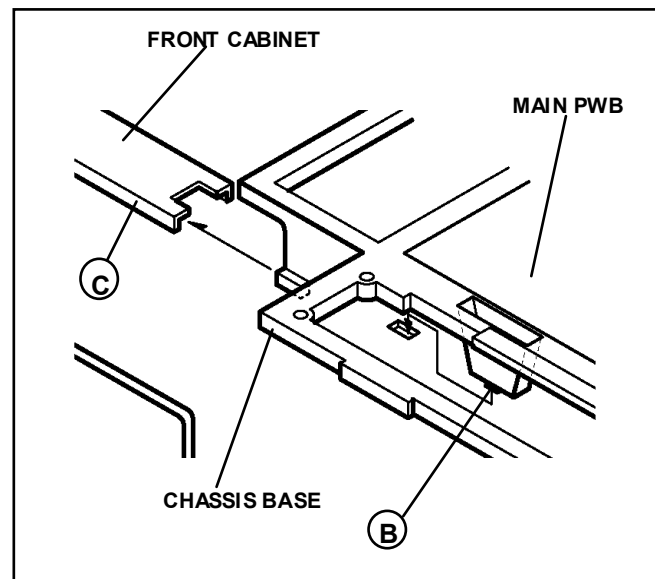
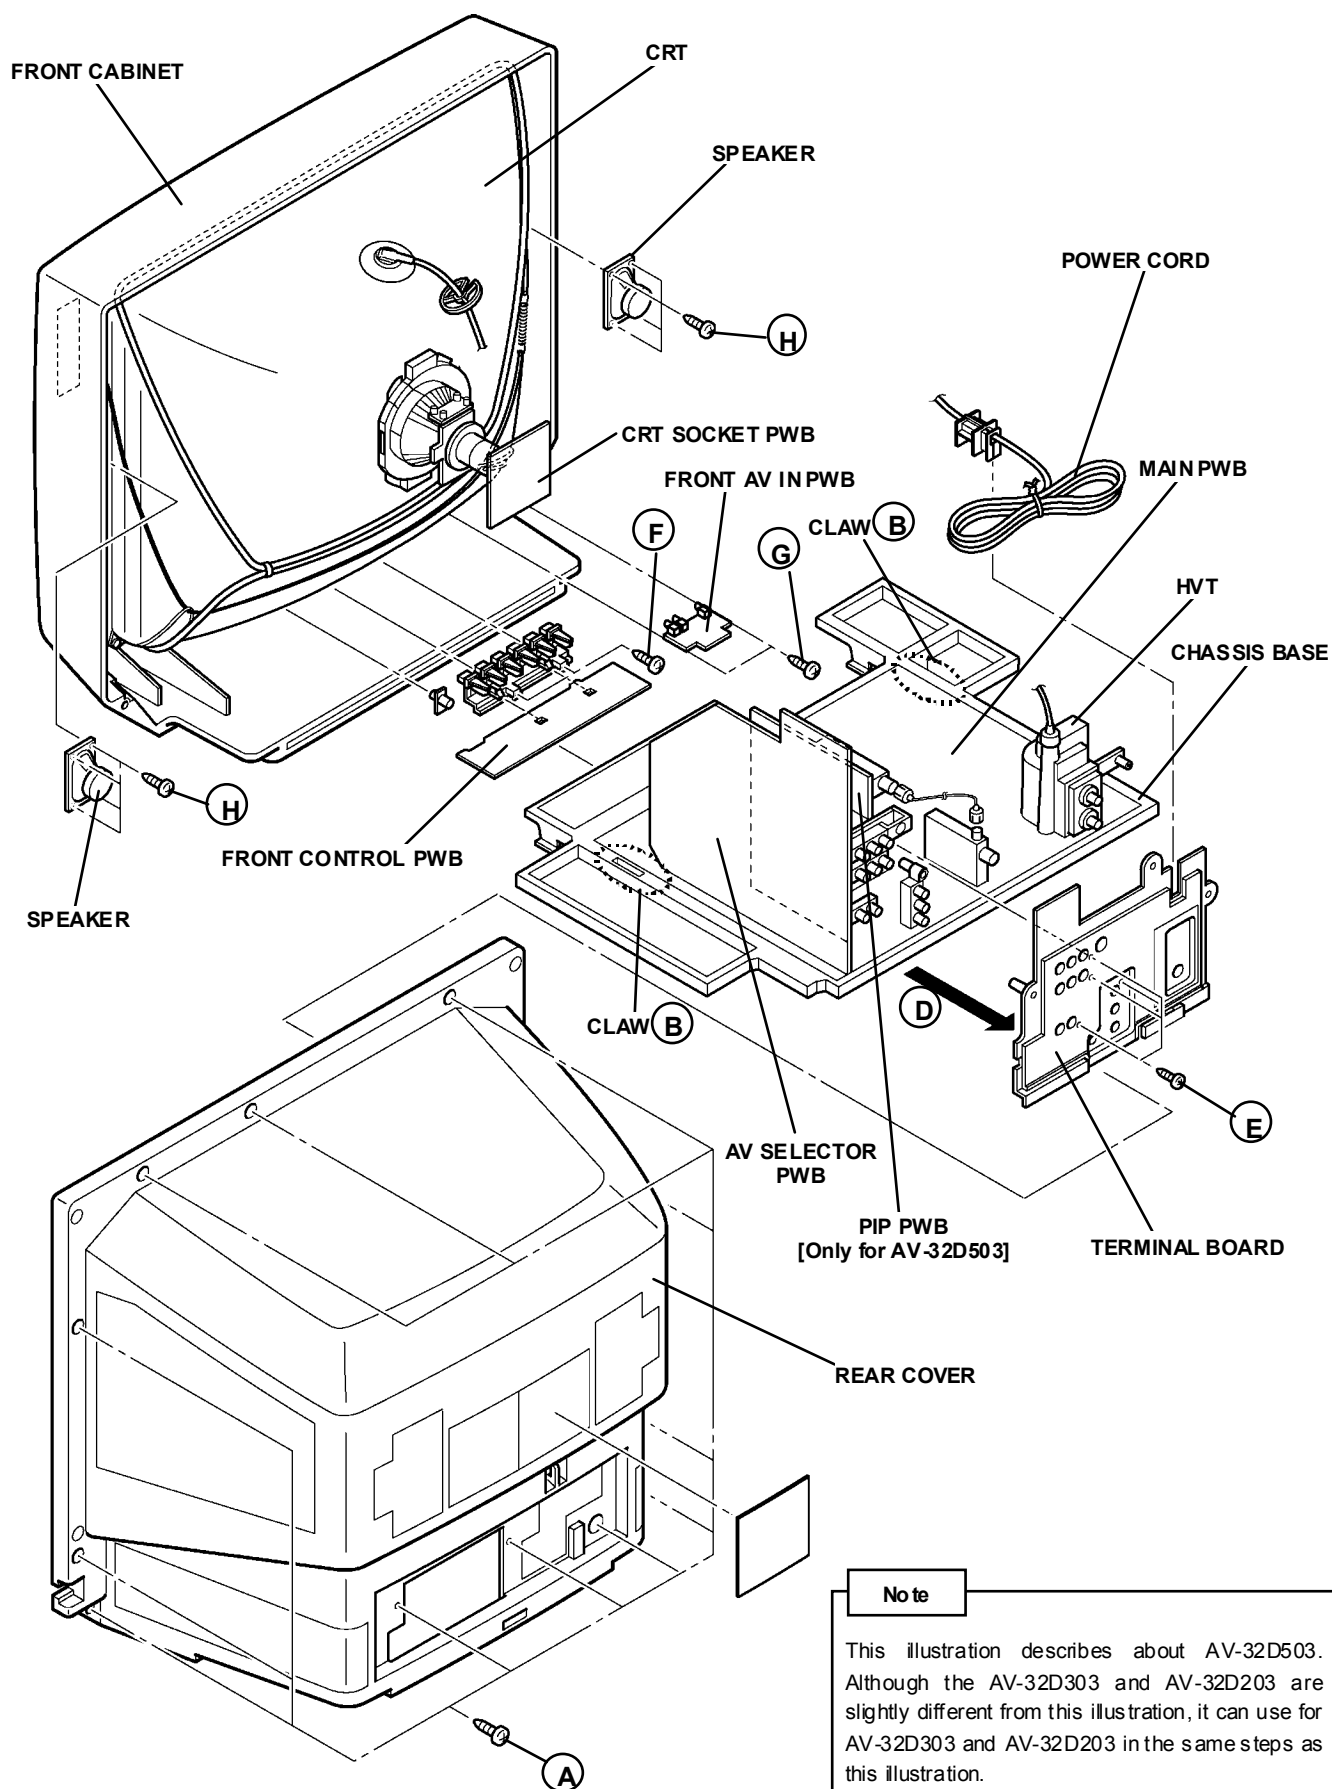

Fig. 1
Fig.2
1. As shown in Fig.2, remove the **12** screws marked **(A)**.
1. Slightly raise the both sides of the chassis base by hand, and remove the **2** claws marked **(B)** (Fig.1 and Fig.2) under the both sides of the chassis from the chassis rail.
2. As shown in Fig.1, draw the chassis base backward along the chassis rail marked **(C)** in the arrow direction marked **(D)** (Fig.2). (If necessary, detach the wire clamp, connector's etc.)
1. As shown in Fig.2, remove the **4** screws marked **(E)**.
1. As shown in Fig.2, remove the **2** screws marked **(F)** attached the FRONT CONTROL PWB with the front cabinet.
1. As shown in Fig.2, remove the **2** screws marked **(G)**.
1. As shown in Fig.2, remove the **4** screws marked **(H)**.
The SERVICE MENU screen of Fig.1 will be displayed.
- ③ While the SERVICE MENU is displayed, select the SYSTEM(SYS) item with **CURSOR ▼/▲** key and go into with **◀/▶** keys. Then the SYSTEM mode screen will be displayed as shown in Fig.2.
- ④ Refer to the table of SYSTEM CONSTANT given in page later, and check the each item. If the value is different, select the setting item with the **CURSOR ▼/▲** key, and setting with the **CURSOR ▶/◀** keys. (The letters of the selected item are displayed in yellow.)
- ⑤ When adjustment has completed, the values store into memory IC automatically.
- ⑥ Press the **EXIT** key twice to return to the normal screen.
(5) Receiving channel setting
Verify what to set in the SERVICE MENU, and set whatever is necessary (Fig.1). Refer to the SERVICE ADJUSTMENT for setting.